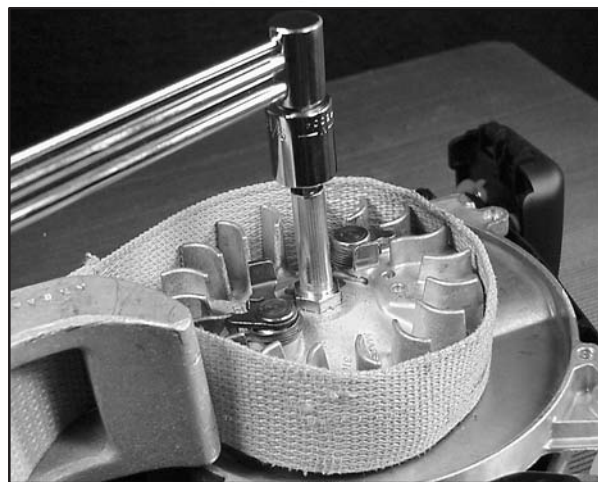

Fig. 22
3. Torque to 170 in. lbs. (19 Nm), Fig. 22.